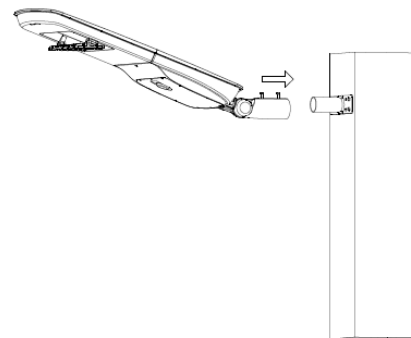

Fig 5
5. Alternatively, the bracket can be screwed straight onto a larger square pole (fig5)